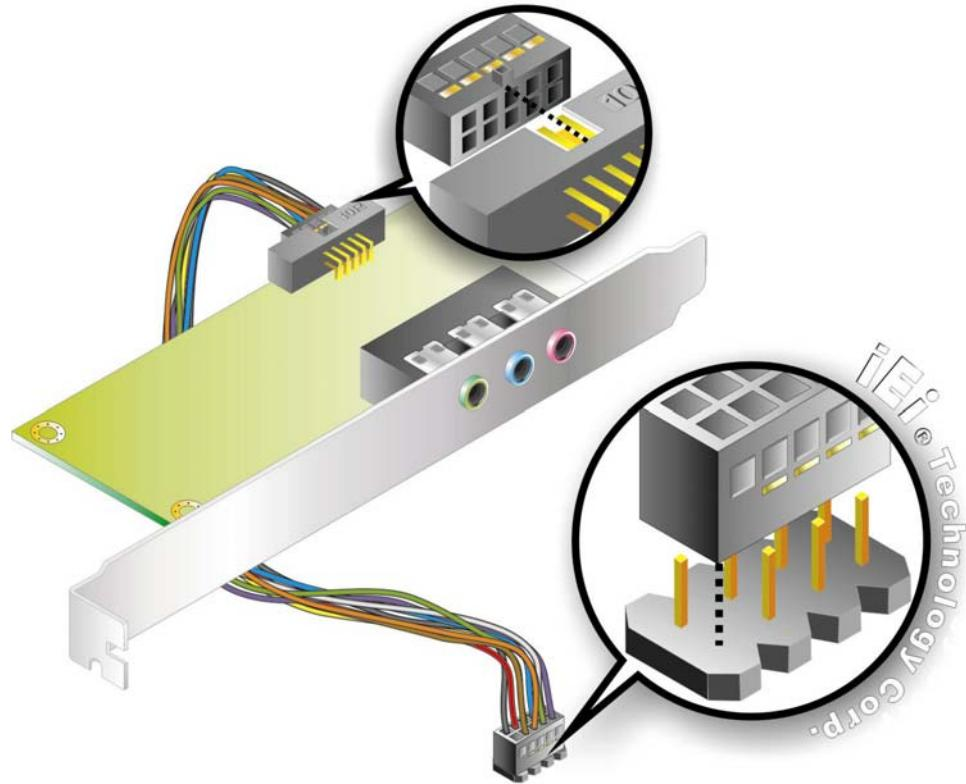

Figure 5-15: 5.1 Channel Audio Kit
Step 3: Align pin 1. Align pin 1 on the onboard connector with pin 1 on the audio kit cable connector. Pin 1 on the audio kit cable connector is indicated with a white dot. See **Figure 5-15**.